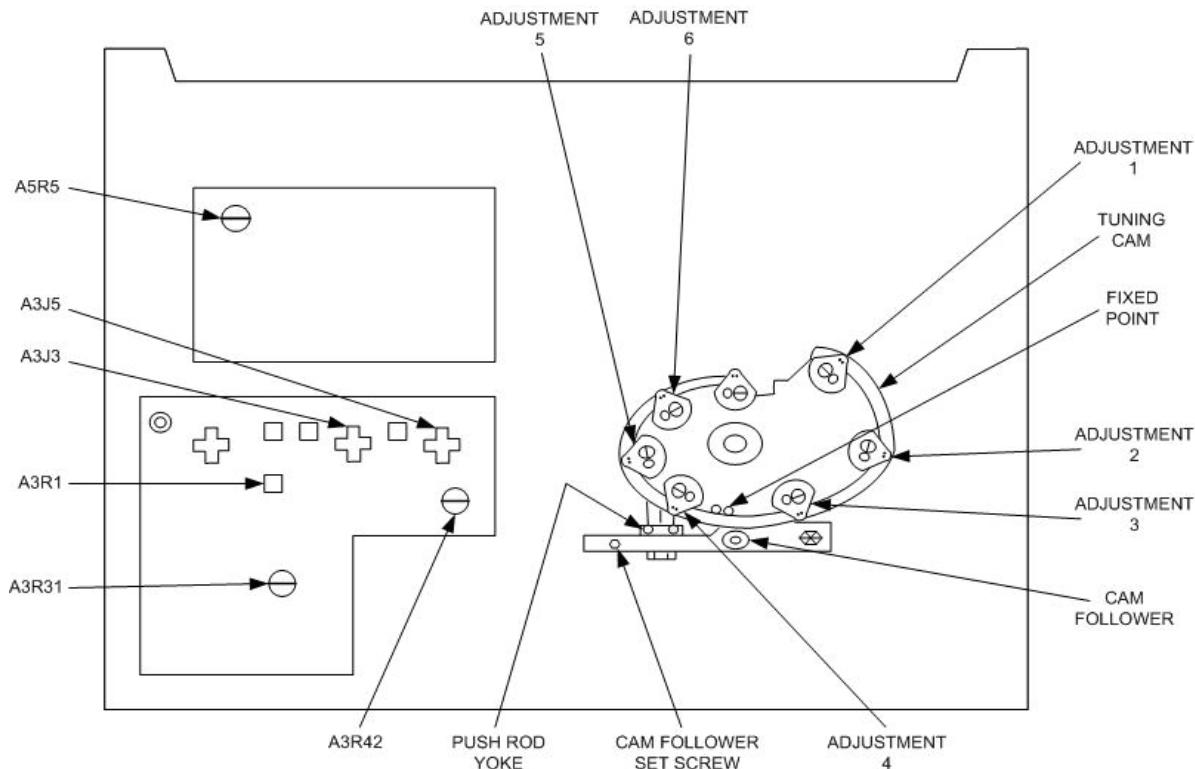

Figure 1. Signal generator - top view.
(1) Adjust **FREQUENCY GHz** control to position the CAM FOLLOWER at fixed point on TUNING CAM (fig. 1). Readjust **FREQUENCY GHz** dial to nearest cardinal point (approximately 9 GHz).
(2) If frequency counter indication is not within ± 1 percent of **FREQUENCY GHz** dial indication, loosen CAM FOLLOWER SET SCREW (fig. 1) and adjust pushrod yoke in or out as needed until frequency counter indication is the same as **FREQUENCY GHz** dial setting (R).
(3) Tighten CAM FOLLOWER SET SCREW and observe that frequency counter indication remains within ± 1 percent of **FREQUENCY GHz** dial setting.
(4) Loosen four hex nuts on underside of TUNING CAM for ADJUSTMENTS 4, 5, and 6 (fig. 1).
(5) Adjust **FREQUENCY GHz** control to position the eccentric ADJUSTMENT 4 (fig. 1) opposite the CAM FOLLOWER. Note **FREQUENCY GHz** dial indication; readjust **FREQUENCY GHz** dial to nearest cardinal point. Adjust hex nut 4 until frequency counter indication is same as test instrument **FREQUENCY GHz** dial indication. Hold hex nut 4 with a wrench and tighten nut on underside of tuning cam with another wrench while observing that frequency counter indication remains within ± 1 percent of **FREQUENCY GHz** dial setting (R).
- (6) Repeat (5) above for cam ADJUSTMENT 5 and 6 (fig. 1).
- (7) Loosen three nuts on underside of cam for ADJUSTMENTS 3, 2, and 1 (fig. 1).
- (8) Adjust **FREQUENCY GHz** control to position eccentric ADJUSTMENT 3 (fig. 1) opposite the CAM FOLLOWER. Note **FREQUENCY GHz** dial indication; readjust **FREQUENCY GHz** dial to nearest cardinal point. Adjust hex nut 3 until frequency counter is same as **FREQUENCY GHz** dial indication. Hold nut 3 with a wrench and tighten nut on underside of TUNING CAM with another wrench while observing that frequency counter indication remains within ± 1 percent of **FREQUENCY GHz** dial setting (R).
- (9) Repeat (8) above for cam ADJUSTMENTS 1 and 2 (fig. 1).
- (10) Repeat a (1) through (9) above.
- (1) Configure measuring receiver to measure power in the linear mode.
- (2) Adjust **ATTENUATOR** and **POWER SET** controls for 1 mW indication on measuring receiver with 0 dBm indication on **-DBM/MICROVOLTS** dial.
- (3) Adjust A3R31 (fig. 1) until TI power monitor meter indicates **CAL (R)**.
(2) Connect multimeter between chassis ground and pin 2 of A3J3 (fig. 1), using high-voltage probe. If multimeter does not indicate between -1237.5 and -1262.5 V dc, perform **b** (2) below.
(3) Press **CW** pushbutton and turn **ΔF** control fully cw.